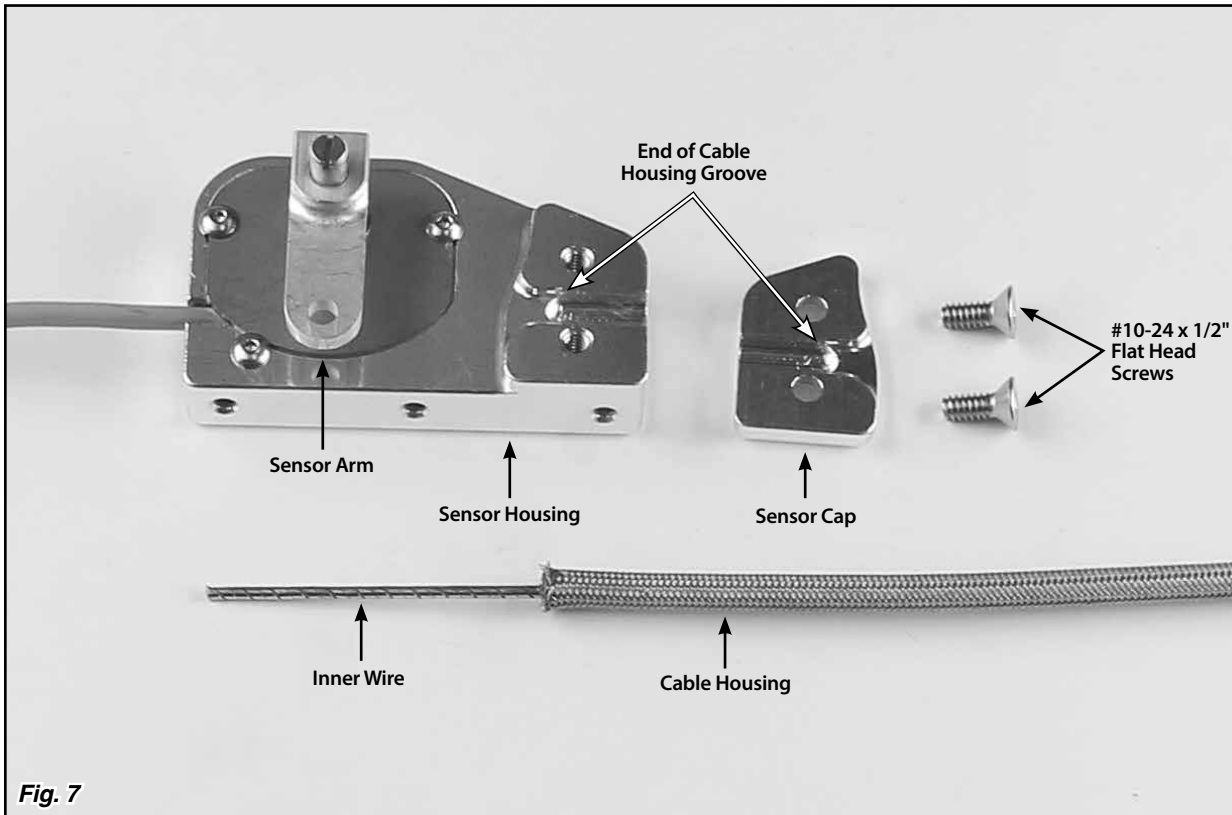
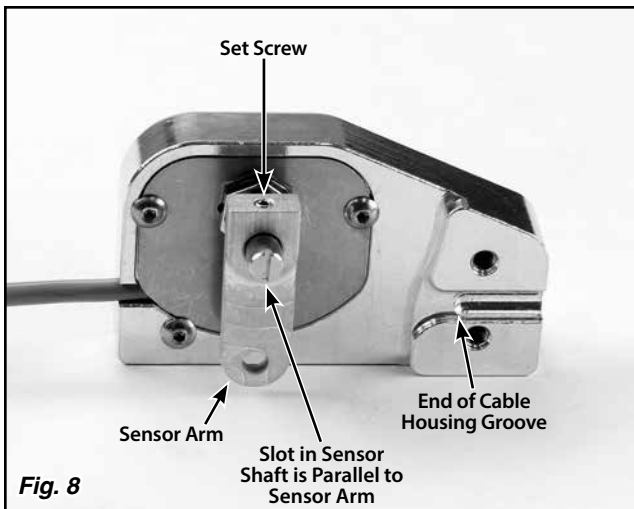

Fig. 7
Fig. 8
**Step 3:** Remove the sensor cap by removing the two #10-24 x 1/2" flat head screws using a 1/8" Allen wrench, and separate the cable housing from the sensor. **Fig. 7**
**Step 4:** Make sure the sensor arm is parallel to the slot in the sensor shaft, with the set screw in the top of the sensor arm aligned with the slot. If it is not, loosen the set screw in the top of the sensor arm using a 1/16" Allen wrench, and adjust the position of the sensor arm on the shaft. **Fig. 8**
There is a groove in the sensor housing that the end of the cable housing fits in to. Mark the cable housing at the end of the cable housing groove. Remove the cable housing from the adjustable cable mounting bracket. **Fig. 7 and Fig. 8**